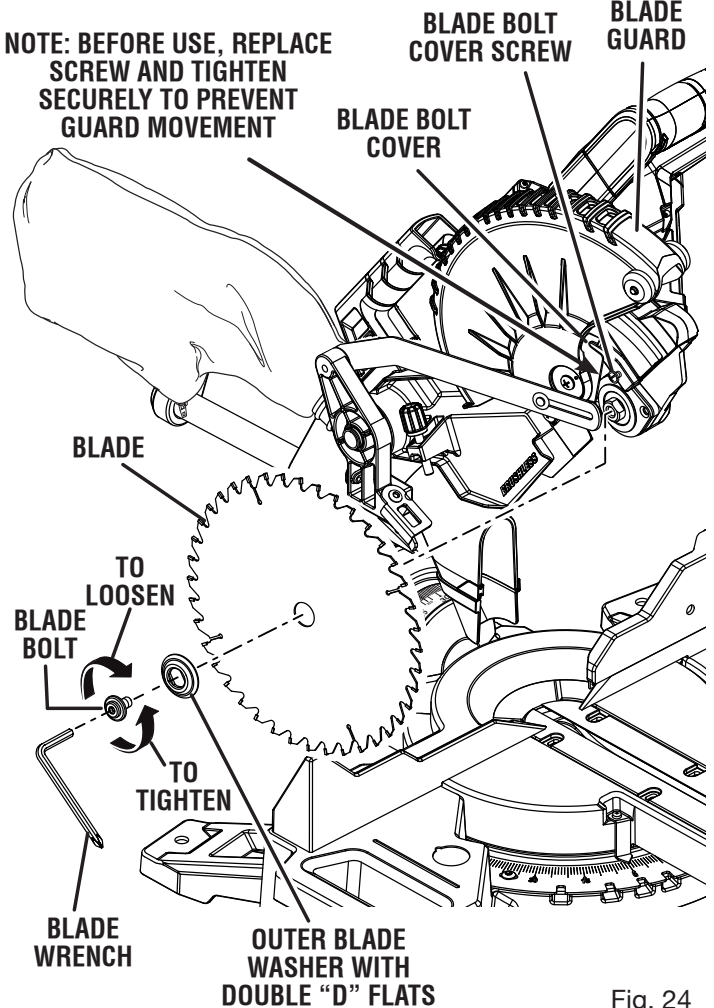

Fig. 24
See Figure 24.
- Fit saw blade inside upper blade guard and onto spindle. The blade teeth point downward at the front of saw as shown in figure 24.